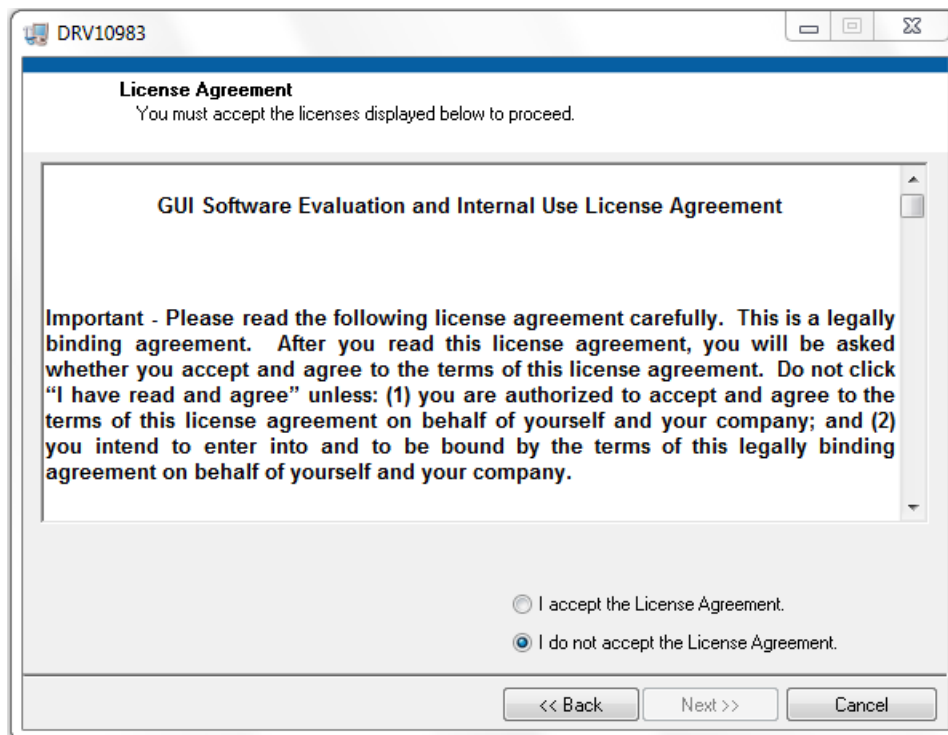

Figure 13. GUI License Agreement
4. The *License Agreement* screen appears as shown in Figure 13. Read through the agreement carefully and enable the “I Accept the License Agreement” radio button, then press the *Next>>* button.